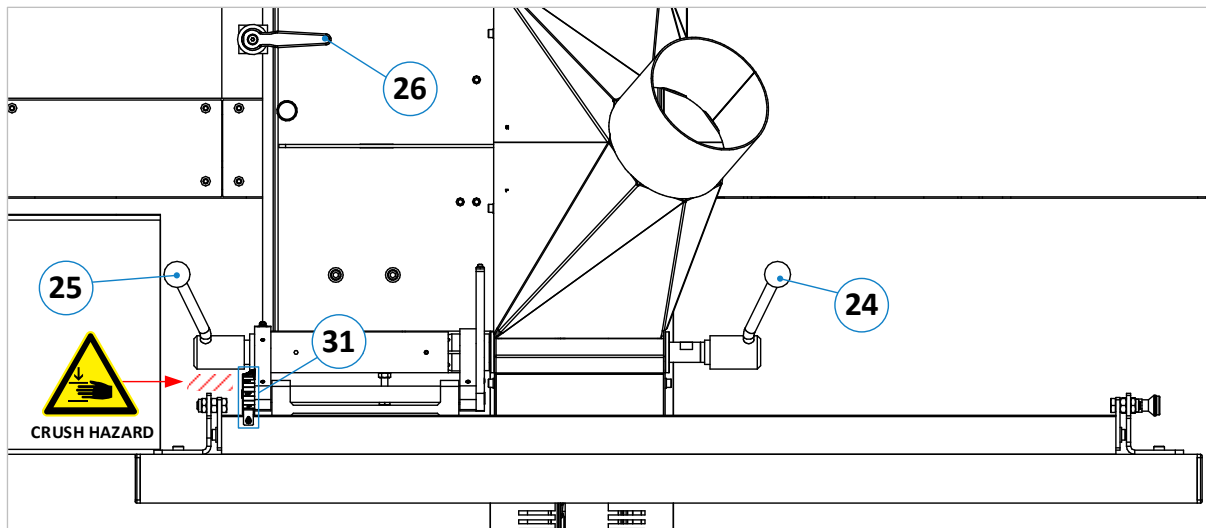
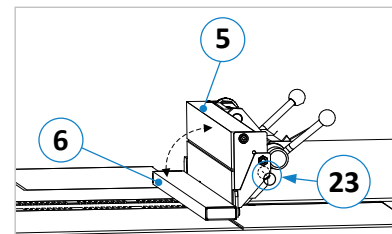

Figure 35: Top view of the surface planer fence
Figure 36: Auxiliary fence
Warning: Danger of crushing fingers and hands between the adjusting lever (25) and the auxiliary fence (see \Rightarrow Figure 35)! During the angular adjustment of the fence, as well as during measurements or other adjustment work, always fold the auxiliary fence down towards the table.
- For planing narrow workpieces or for joining work, use the swiveling auxiliary fence (6), which is located on the main fence (5).
- When not in use, pull the locking bolt (23) outwards, swivel the fence upwards (see \Rightarrow Figure 36) and snap the locking bolt (23) back into place.